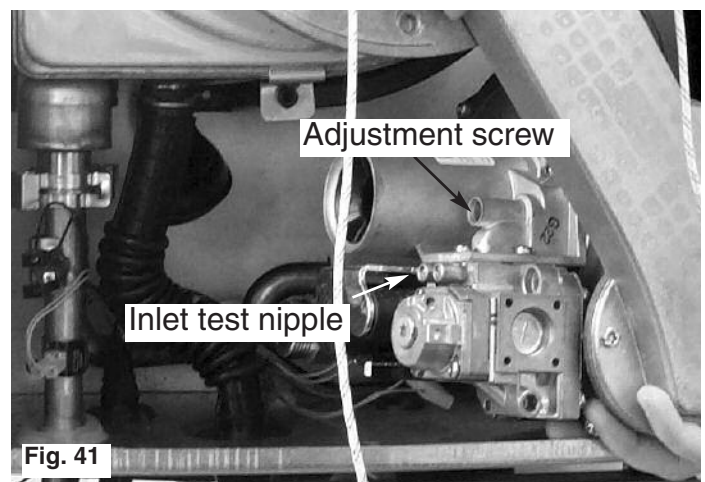

Fig. 41
2. Connect a manometer to the inlet test nipple (Fig. 41) on the gas valve, turn on the Central Heating and ensure the inlet working pressure is 20mbar. If correct proceed as follows;
7. If necessary adjust the screw on the gas valve (Fig. 41) to set the CO2 to 8.9% +/- 0.2% (NG) or 8.9% +/- 0.2% (LPG) with the front case removed;
8. Press the setting button  $\ominus$  once to set the combustion control rate mode to minimum, and, if necessary, adjust the screw on the gas valve to set the CO2 to 9.2% +/- 0.2% (NG) or 9.7% +/- 0.2% (LPG) with the front case removed;
9. Press the setting button  $\oplus$  again to set the combustion rate control mode to maximum and if necessary adjust the screw on the gas valve to set the CO2 to 8.9% +/- 0.2% (NG) or 9.7% +/- 0.2% (LPG) with the front case removed;